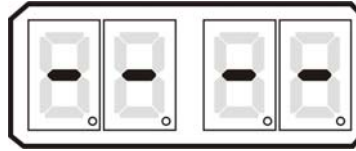

Figure ENG-283-6: Display LED at Normal Operation
- The Display LED during Normal operation has running red center dash lines (Figure ENG-283-6: Display LED at Normal Operation)